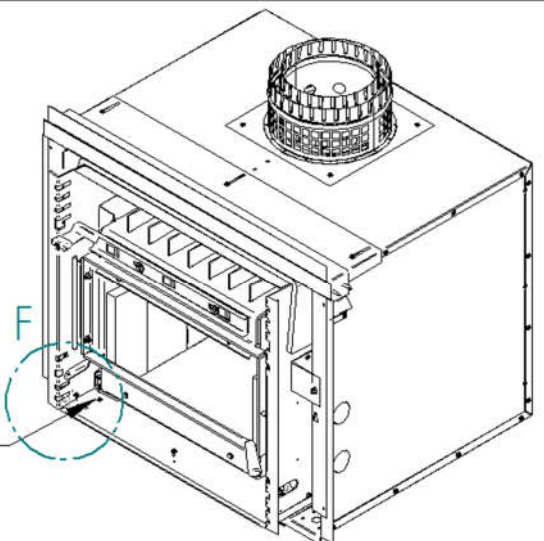

Fig. 19 – Joining Firebox With ZC Box
23. Complete the seismic restraint of the fire by screwing the base plate of the fire to the bottom of the ZC box with two M6x16 screws. Use the two holes in the base spaced 525mm apart. Refer Fig. 19